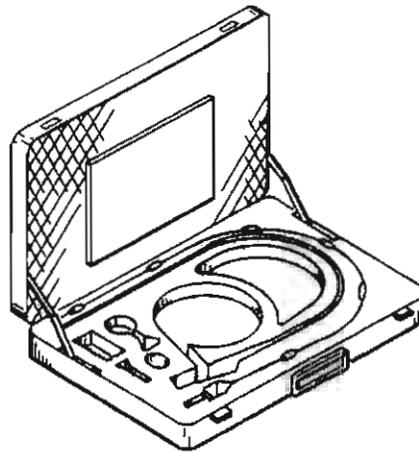

Figure 1-2. Case.
(1) *Case (fig 1-2)*. The high impact plastic "briefcase" incorporates a hinged lid, two latches, and a movable carrying handle. The case includes a foam insert with cutouts to store the fiberoptic bronchoscope and its components/accessories.